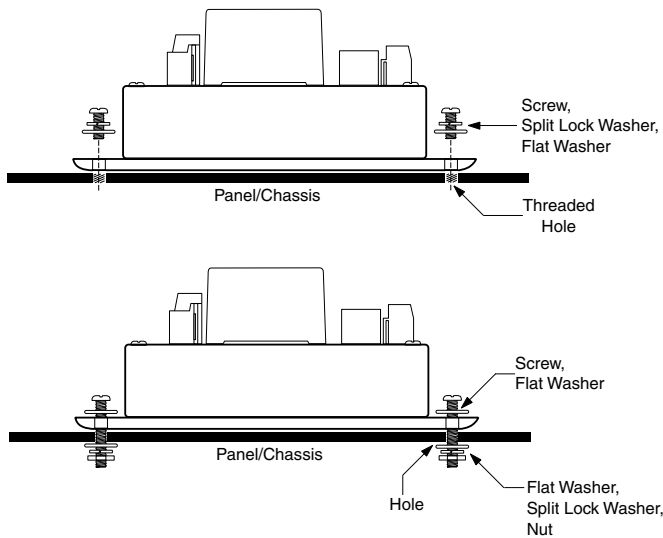

Figure 4. Chassis Mounting
- 1. Chassis Mounting Considerations:** In order to minimize self-heating, DMS-PS-CM power supplies should always be mounted in either a vertical or horizontal position. Avoid mounting units upside-down or in close proximity to other heat-generating devices. Also, be sure to use the mounting hardware described in Figure 4 below in order to ensure a secure, vibration-resistant installation.